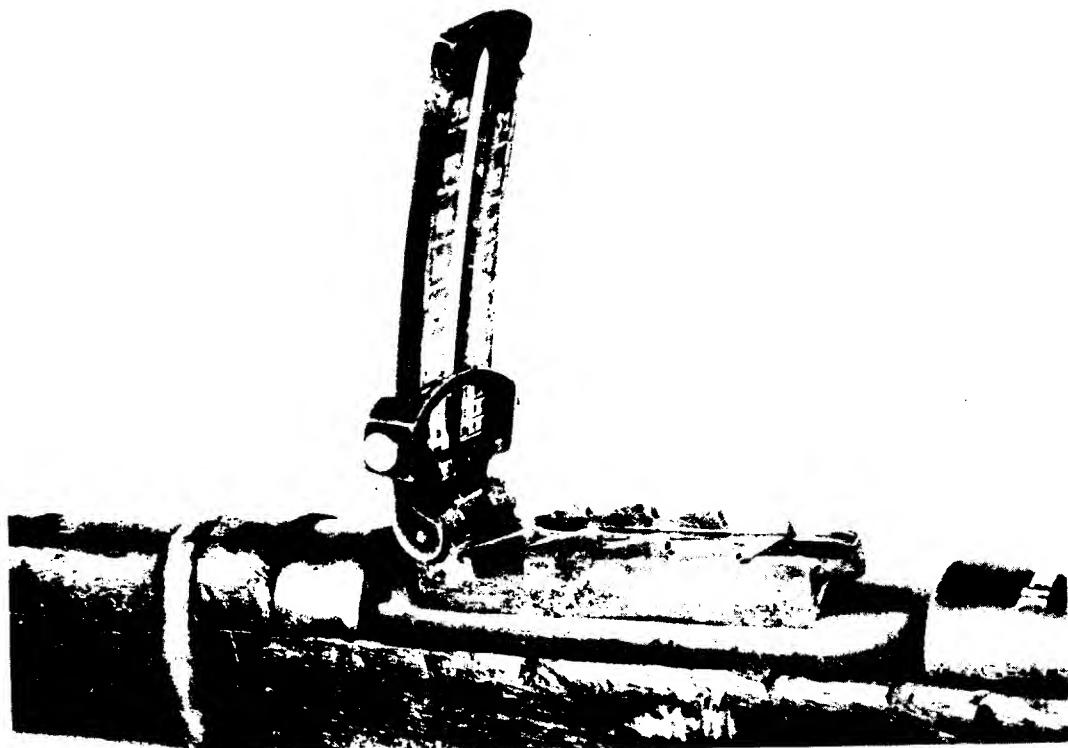

FIGURE 8. REAR SIGHT FOR RIFLE M1891.
- a. This rifle has a notched-ramp leaf-type rear sight (fig. 8) which has no provision for windage. The sight is graduated from 400 to 3,200 arshins (312 to 2,496 yards).